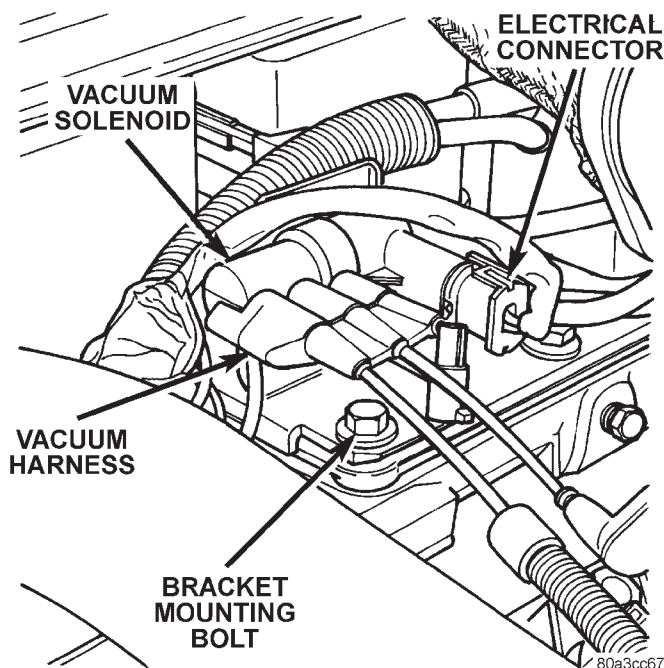

Fig. 12 EGR Valve Vacuum Regulator Solenoid
The solenoid is located at the top/front of cylinder head (Fig. 12).
- (1) Disconnect electrical connector at solenoid.
- (2) Disconnect vacuum harness at solenoid.
- (3) Remove solenoid bracket bolt (Fig. 12).
- (4) Remove solenoid and bracket from engine.
- (5) Reverse the removal steps for installation.